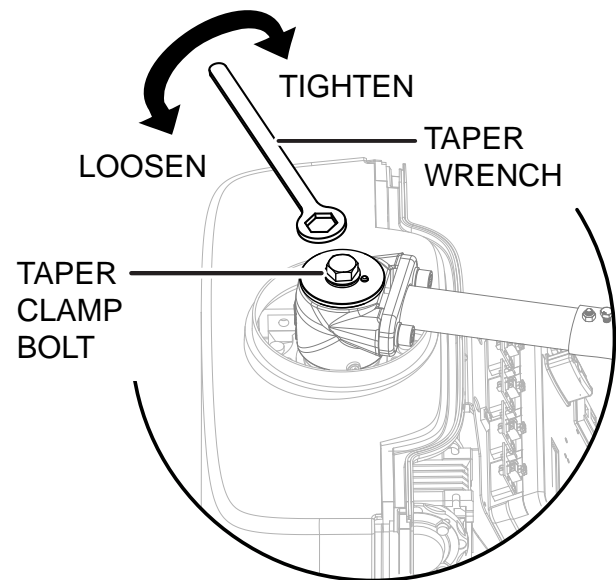

Figure 19. Loosen the Taper Clamp
1. Loosen the taper clamp bolt with the taper bolt wrench to allow the gate and arm assembly to rotate freely (Figure 19).